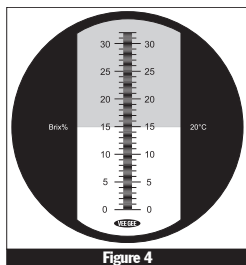
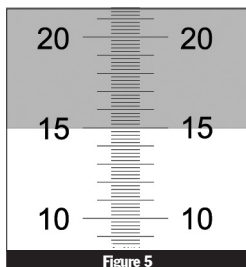

Figure 4
Figure 5
- 4 When the refractometer scale is viewed through the eyepiece, the upper field of view will be seen as blue and the lower field will be seen as white (Figure 4). The reading is taken at the point where the boundary line of the blue and white fields crosses the scale (Figure 5). The value is the Brix/Specific Gravity Beer Wort reading of the sample.